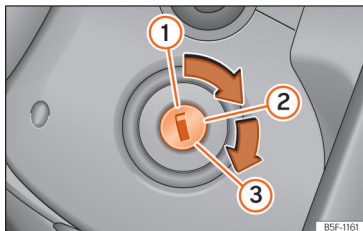

Fig. 129 Ignition key positions.
Key positions » Fig. 129
- Turn the key to position »» Fig. 129 ②.
- Keep turning the key to position »» Fig. 129 ③ without stepping on the accelerator.
- Once the engine starts, release the key. When it is released, the key returns to position ②.
- *Vehicles with ignition locks:* Turn the key to position » **Fig. 129** .